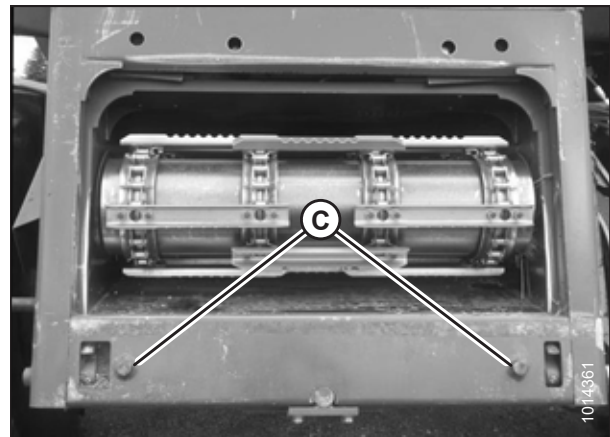

Figure 5.3: AGCO Group Alignment Pins
3. Start the engine and slowly approach the header until the feeder house is directly under float module top cross member (A) and alignment pins (C) (refer to Figure 5.3, page 50) on the feeder house are aligned with holes (B) in the float module frame.